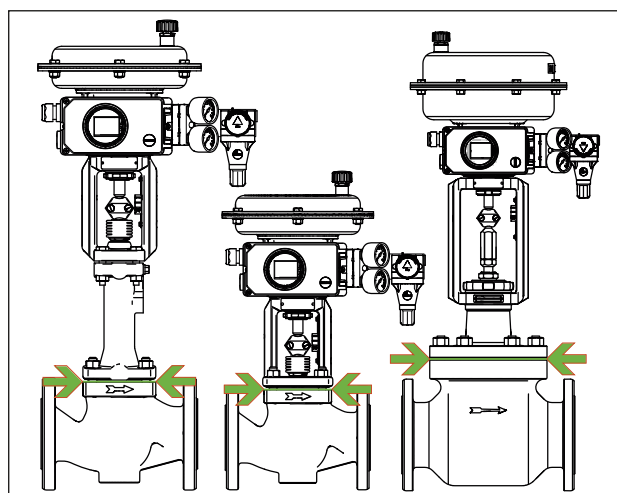

Fig. 9: Limit of insulation for control valves (example shown)
- ⇒ Only insulate control valves up to the bonnet flange of the valve body (see Fig. 9). This also applies to versions with insulating section at medium temperatures below 0 °C (32 °F) or above 220 °C (428 °F). If the insulating section is insulated, it will not function properly.